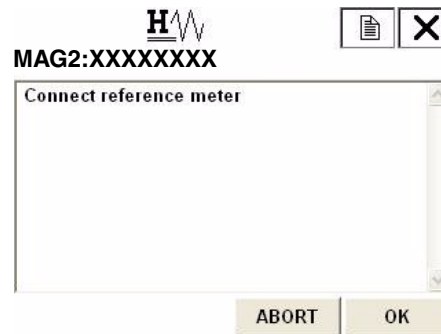

Figure 121.
- Figure 121 then appears. Connect the device to measure the pulse output, and then press F4 (OK).